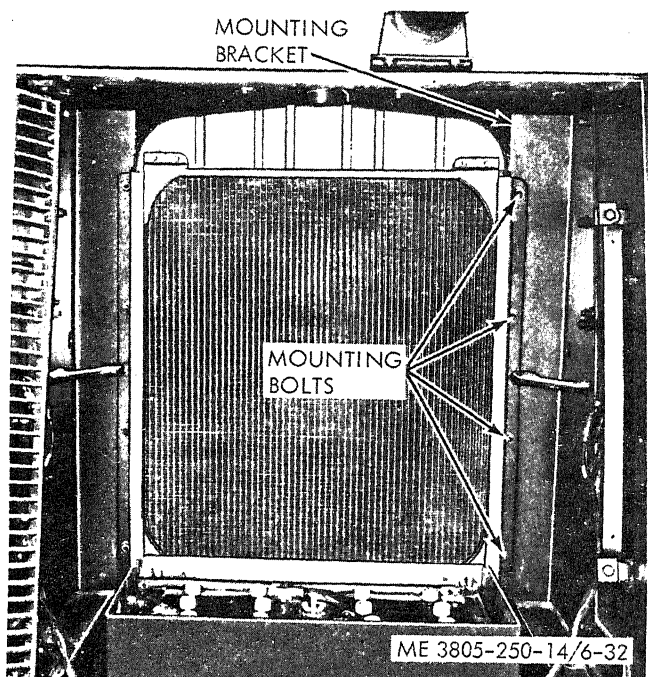

Figure 6-32. Radiator, removal and installation.
(1) Remove the engine side panels and hood (para 4-51).
(2) Drain the cooling system.
(3) Remove four bolts, nuts, and lockwashers securing the sides of the radiator to the support (figure 6-32).
(4) Disconnect the clamps securing the upper radiator hose to the water manifold and the lower radiator hose to the water pump housing.
(5) Lift and guide the radiator from the loader.